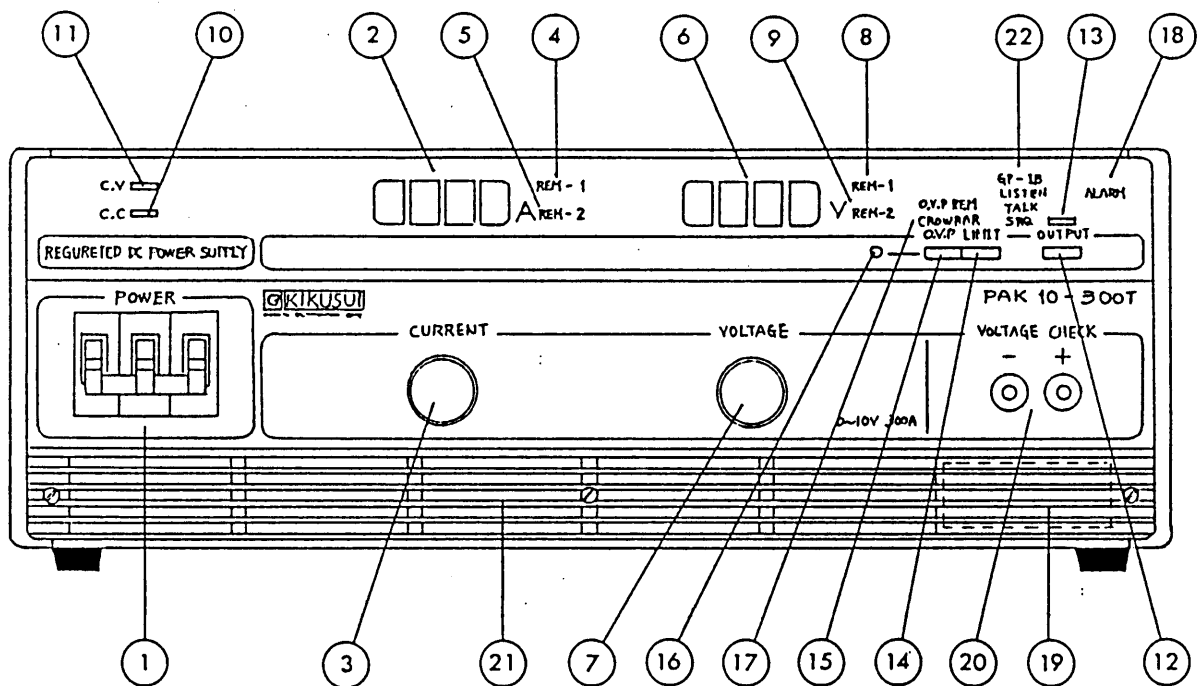

Figure 2-17
(3) Output Voltage Monitor Signal
The VOLTAGE CHECK (output current check) terminal on the front panel delivers a voltage signal which represents the output voltage (voltage between sensing terminals ⑨ and ⑩). The voltage relationship between the actual output voltage and the monitor signal voltage is 1V:1V. (Refer to figure 2-17 ㉑).
(4) Output Current Monitor Signal